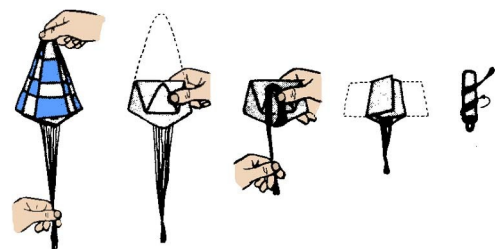

Figure 11
- **Step 28** Do not store parachutes in the model when displaying between flights. In cold weather, or cold climates, give the parachute a light dusting of talcum powder to prevent the material from sticking. Fold the parachute in the manner shown in Fig. 11 above. Do not wrap the lines tightly, but just tight enough to hold the final shape. Attach the snap links on the shroud lines and the shock chord to the screw eye on the nose cone.